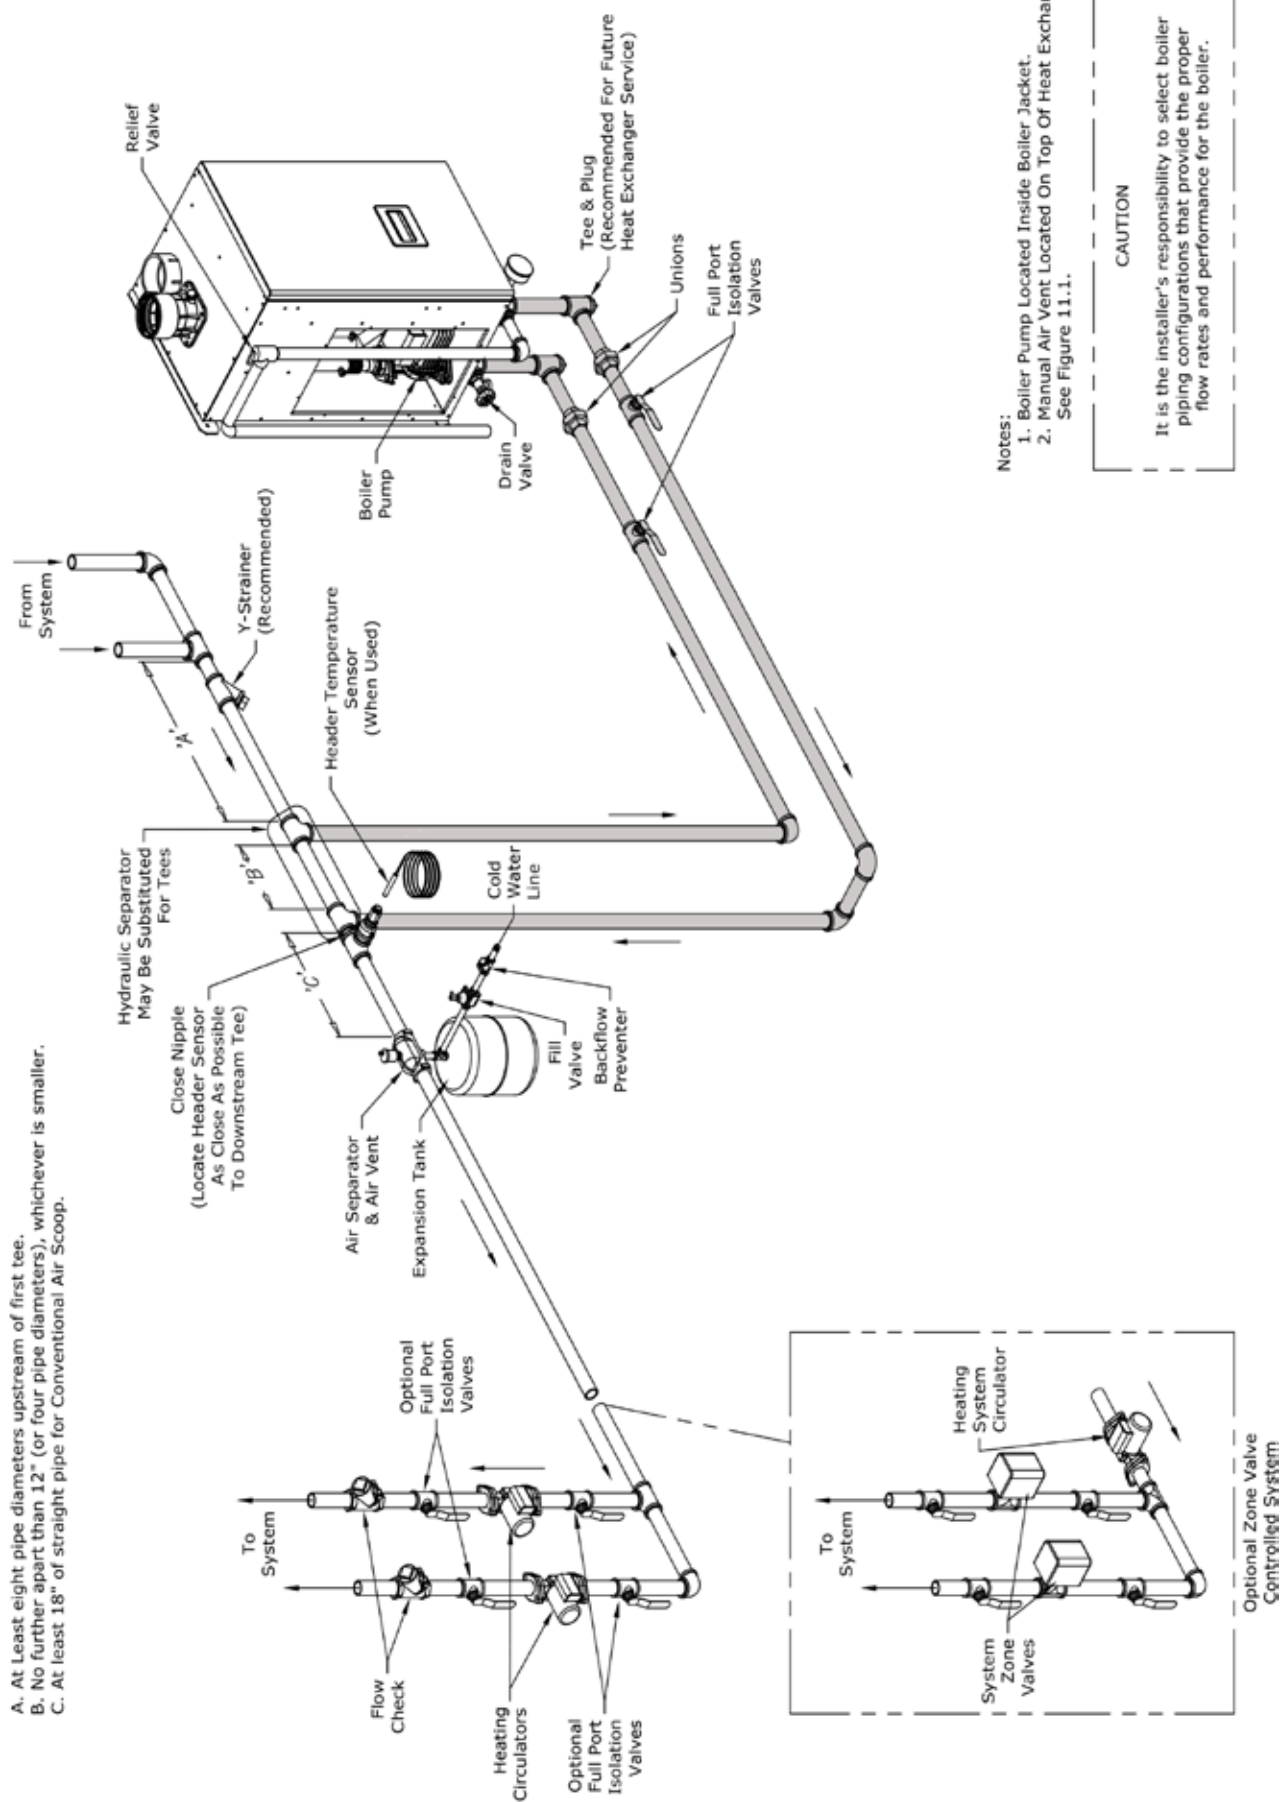

Figure 9.6: Piping Method #1 - Near Boiler Piping - Shaded Boiler Loop
- a. Count all fittings in the planned boiler loop (the shaded piping in Figure 9.6). In doing so, do not count the secondary connection tees, unions, or the fittings supplied with the boiler (these have already been accounted for).
*Example – A 120MBH model is to be connected to a heating system as shown in Figure 9.6. A total of 20 ft of straight pipe will be installed between the boiler and the system loop.*
*Count all fittings in the boiler loop (shaded in Figure 9.6):*